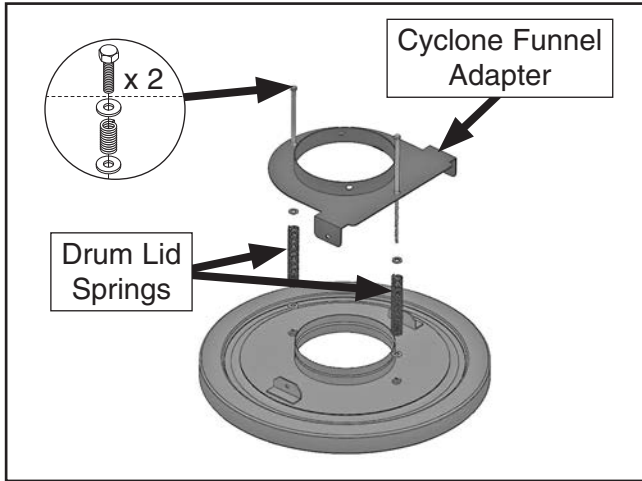

Figure 22. Installing cyclone funnel adapter.
21. Position cyclone funnel adapter and drum lid together with (2) $\frac{3}{8}$ "-16 x 11" hex bolts, (2) drum lid springs, and (4) $\frac{3}{8}$ " flat washers, as shown in **Figure 22**.